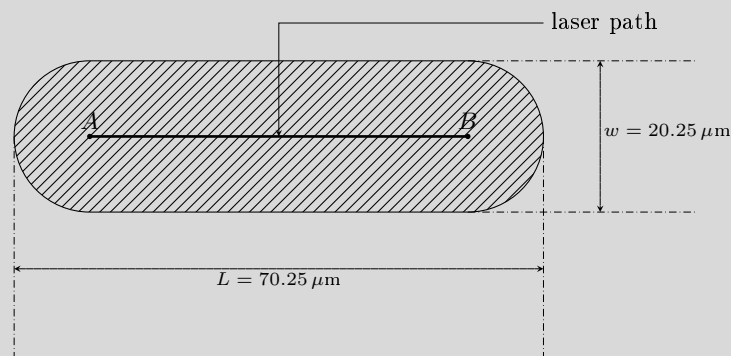

Figure 2: Laser path and cured surface
- 1) The laser travels over the photoresist from point A to point B over a distance $l = 0.05 \text{ mm}$ (see Fig. 2). It provokes the curing of a certain volume V_c . You are asked to hatch on Fig. 2 the shape of the upper surface of this volume V_c . You are also asked to compute the precise dimensions of this shape (length L and width w).
In particular the iso-lines of the intensity are **circles** and the trace of V_c in the surface will be a **rounded rectangle** of axis AB (see Fig. 2) and with a half-width $\frac{w}{2}$ corresponding to the radius of the threshold iso-line:
- 2) the lateral dimension $\frac{w}{2}$ (see Fig. 2) of the smallest volume that can be consolidated.